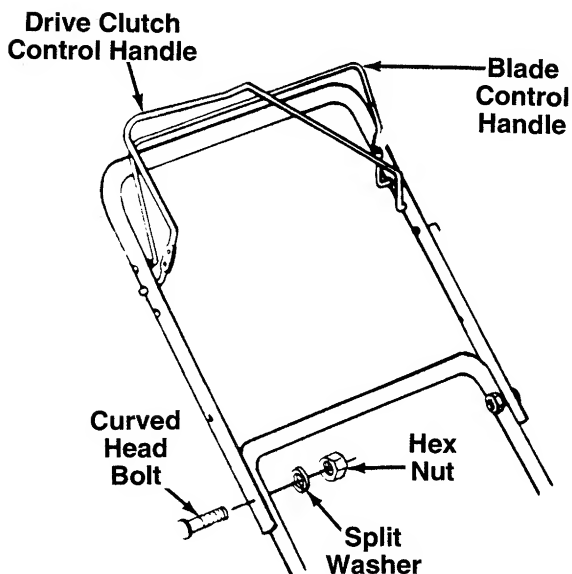

FIGURE 2.
1. Place the upper handle in position over the lower handle. The control handles (attached to the upper handle) must be positioned as shown in figure 2, on top of the handle.
2. Remove the drive clutch control handle from the upper handle (pull right side out of hole in upper handle first, then left side). Make certain blade control handle stays on top of upper handle. Refer to figure 2.